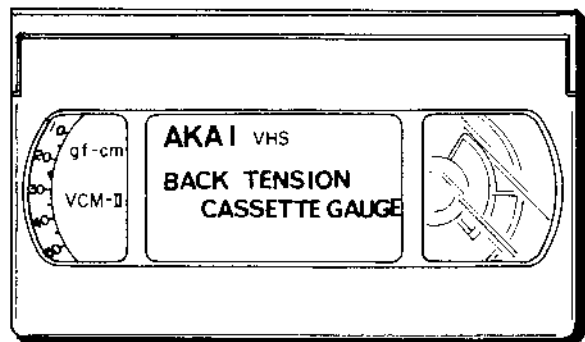

Fig 5-5 Back Tension Jig (AJ-751181)
- 1) Set the Back Tension Jig. (AJ-751181) as shown in Fig. 5-5, and put some weight on the Back Tension Jig.